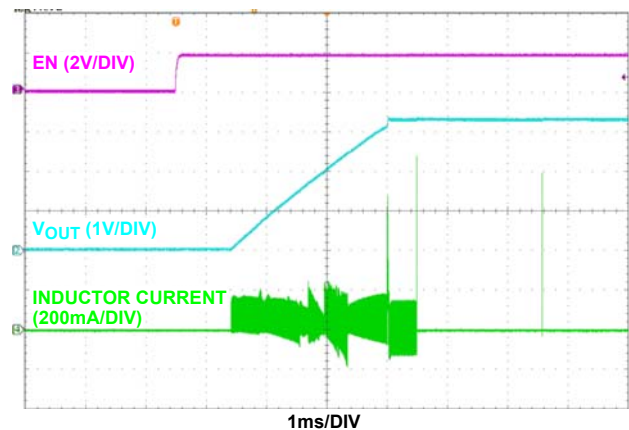

FIGURE 2. ISL91107IR START-UP WITH $V_{IN} = 2\text{V}$ AND $V_{OUT} = 3.3\text{V}$
Refer to the "Quick Setup Guide" to configure and power up the board for proper operation. During the power-on process, the expected waveforms are shown in Figures 2 and 3.
7. Monitor the output voltage start-up sequence on the scope. The waveforms will look similar to that shown in Figures 2 and 3.